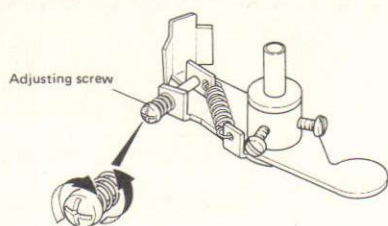

Fig. 1
- 2) When the auto return mechanism works too late, rotate the leading arm assembly fine adjust screw counterclockwise and adjust. (Refer to Fig. 1)